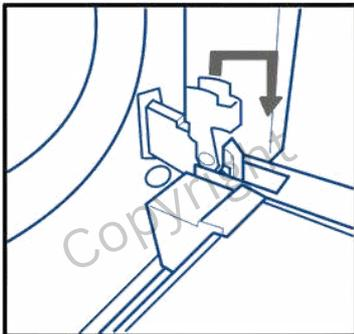

Figure 1
2. Pull the locking hooks of the door hinges completely forwards (see figure 1).